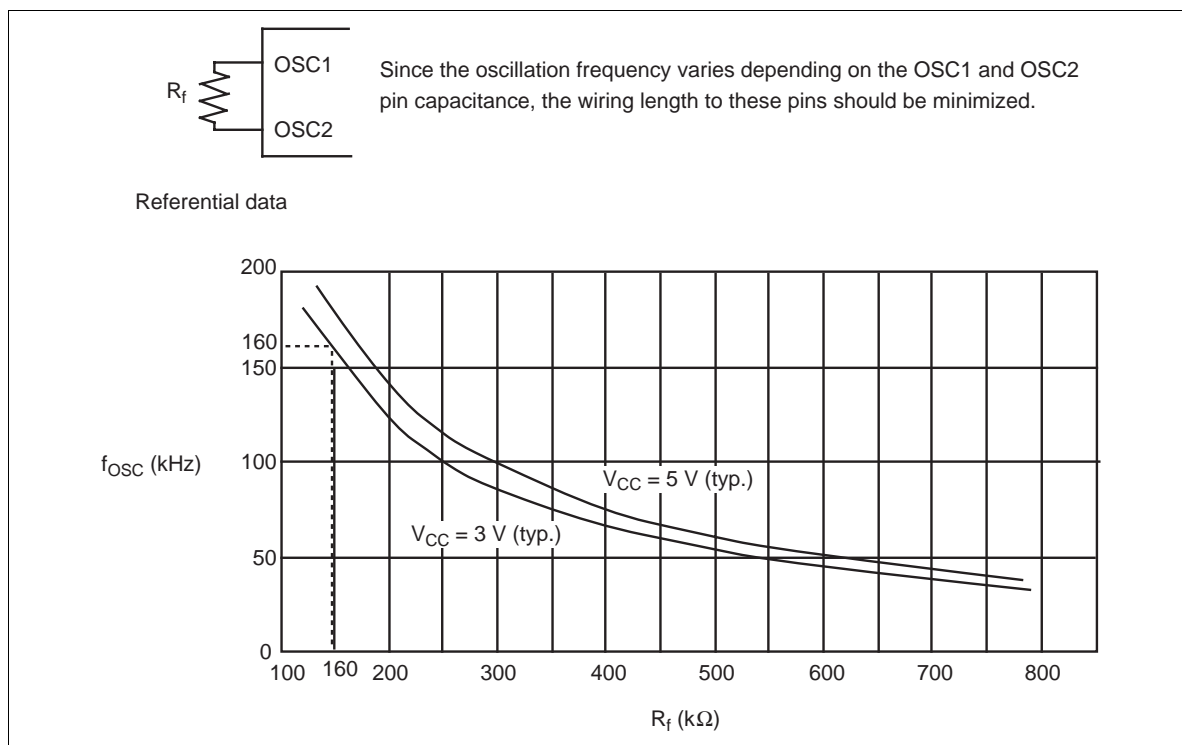

Figure 54 Internal Oscillation
14. Applies to the internal oscillator operations using oscillation resistor R_f (Figure 54).